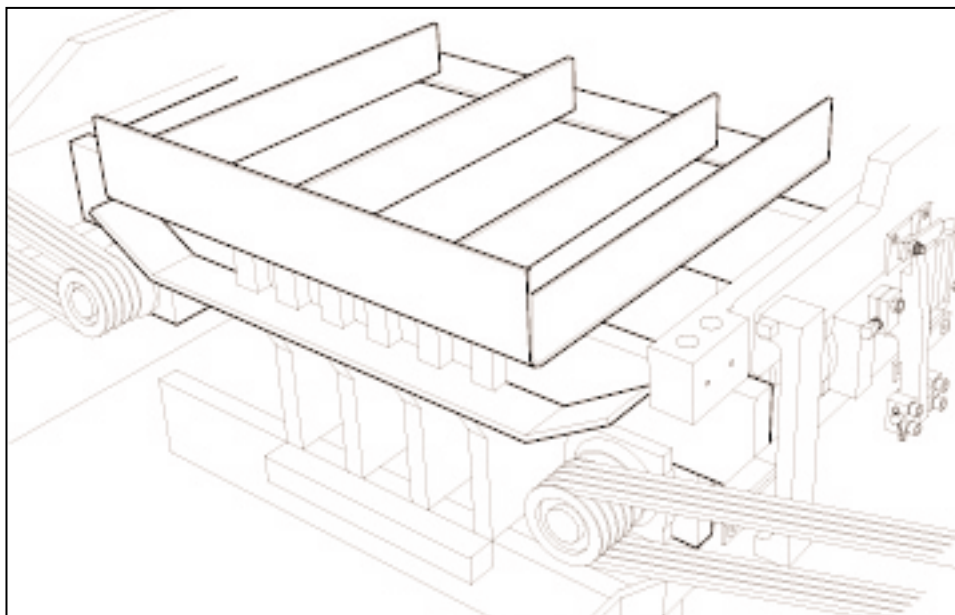

Figure 5.16 MOLD RESTING ON THE PALLET RECEIVER.
5.4.29 Cycle machine to "first stop" position (feedbox all the way to the front), turn clutch switch off and stop drive motor. At this point the mold and pallet should be on the pallet receiver rubbers (see figure 5.16).